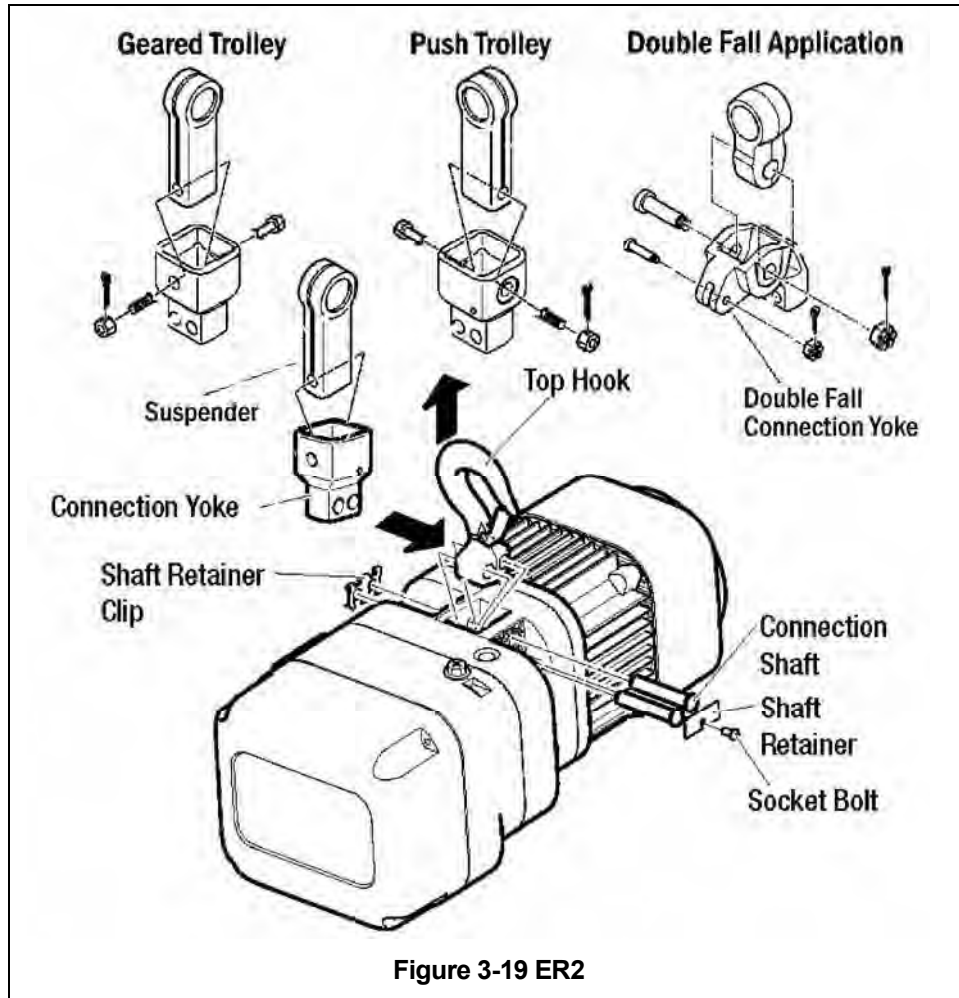

Figure 3-19 ER2
- 1) Refer to **Figure 3-19**.
- 8) Install the appropriate Suspender for the application, securing it to the Connection Yoke with the Yoke Bolt, Slotted Nut, and Split Pin. **Note: (See Figure 3-19) Double Fall applications require a Chain Pin, small Slotted Nut, and small Split Pin, in addition to the Yoke Bolt, Slotted Nut, and Split Pin.**